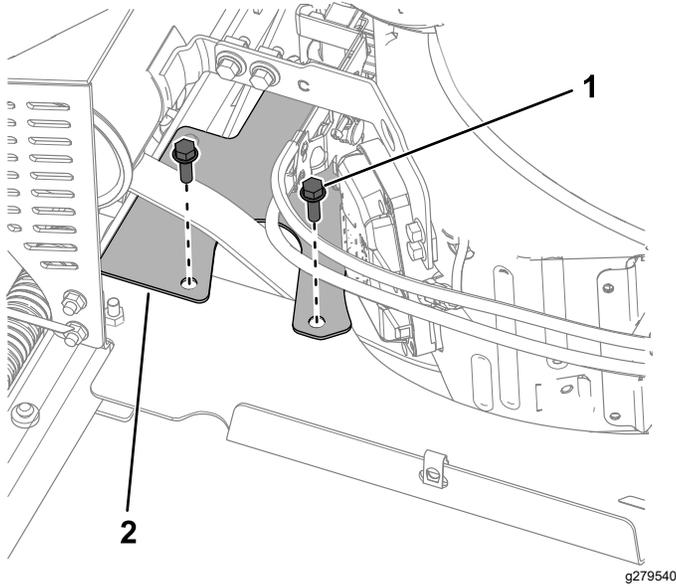

Figure 3
1. Remove the 2 bolts (5/16 x 1 inch) and belt guard (Figure 3).